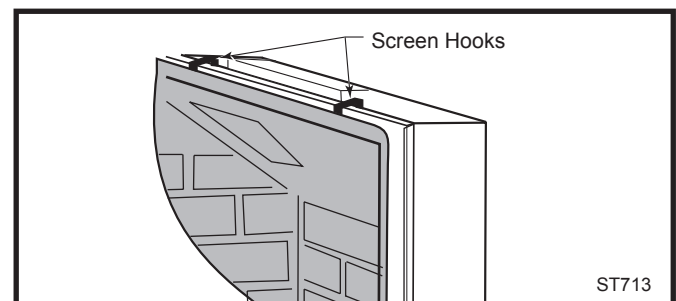

Fig. 10 Remove screen.
1. Remove screen. (Fig. 10) Remove rear, left and right log bracket assembly by unfastening the two screws which hold the burner in place.